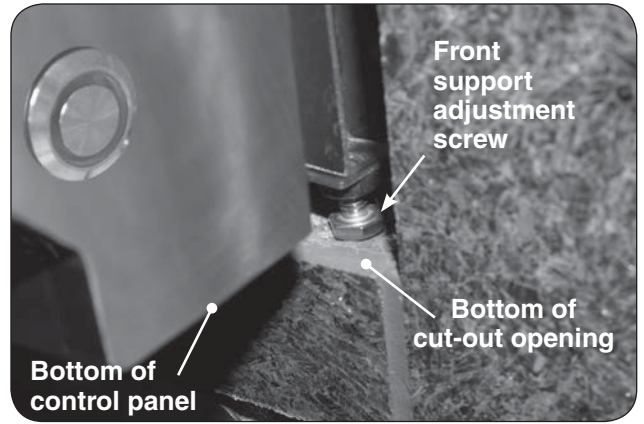

Fig. 21-1 Front support adjustment screws
- Rotate the front support adjustment screws to the left to raise and to the right to lower the respective side of the appliance grill. Use a $\frac{7}{16}$ " open-end wrench as needed. See Fig. 21-1.